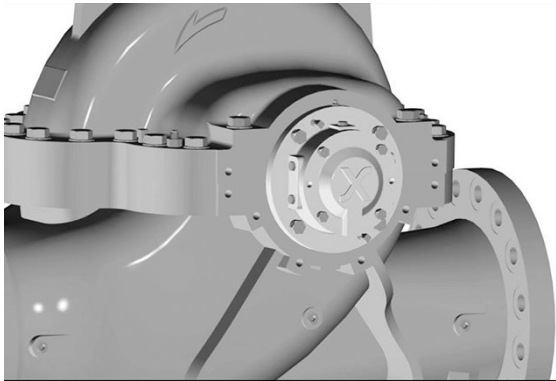

Figure 35: Bearing gland installed on outboard (opposite of coupling) side of pump
16. Slide the bearing cap onto the bearing body and alternately tighten the bearing gland capscrews so as not to "cock" the bearing gland. If not done properly, this will cause the bearing to bind. (see Figure 35)